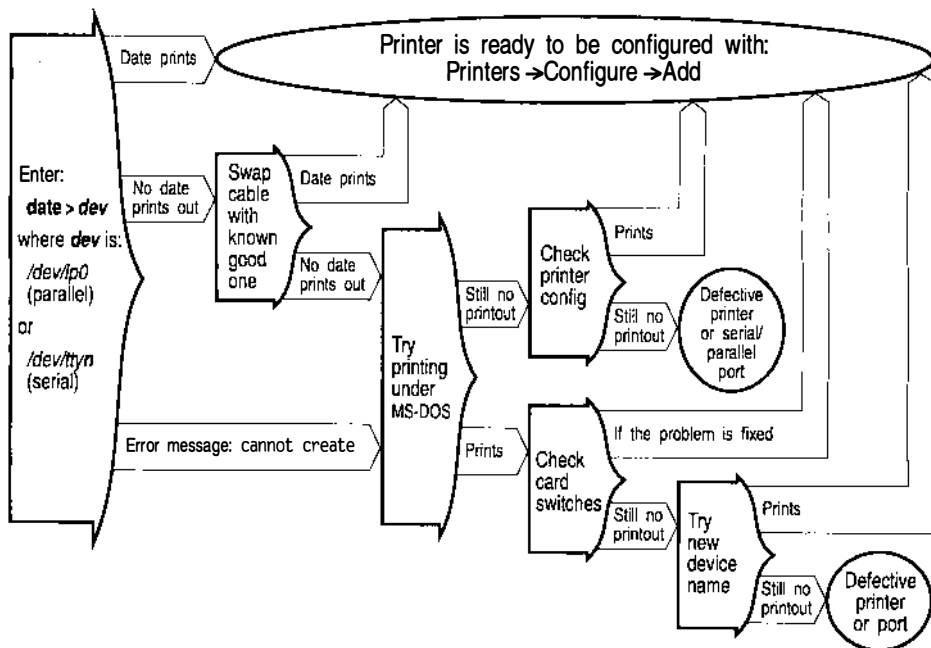

Figure 10-1 Testing your printer connection
4. Verify that you have connected the printer correctly by sending data directly to the device. (This procedure is shown in flowchart form in Figure 10-1 later in this section.) Enter one of the following commands: